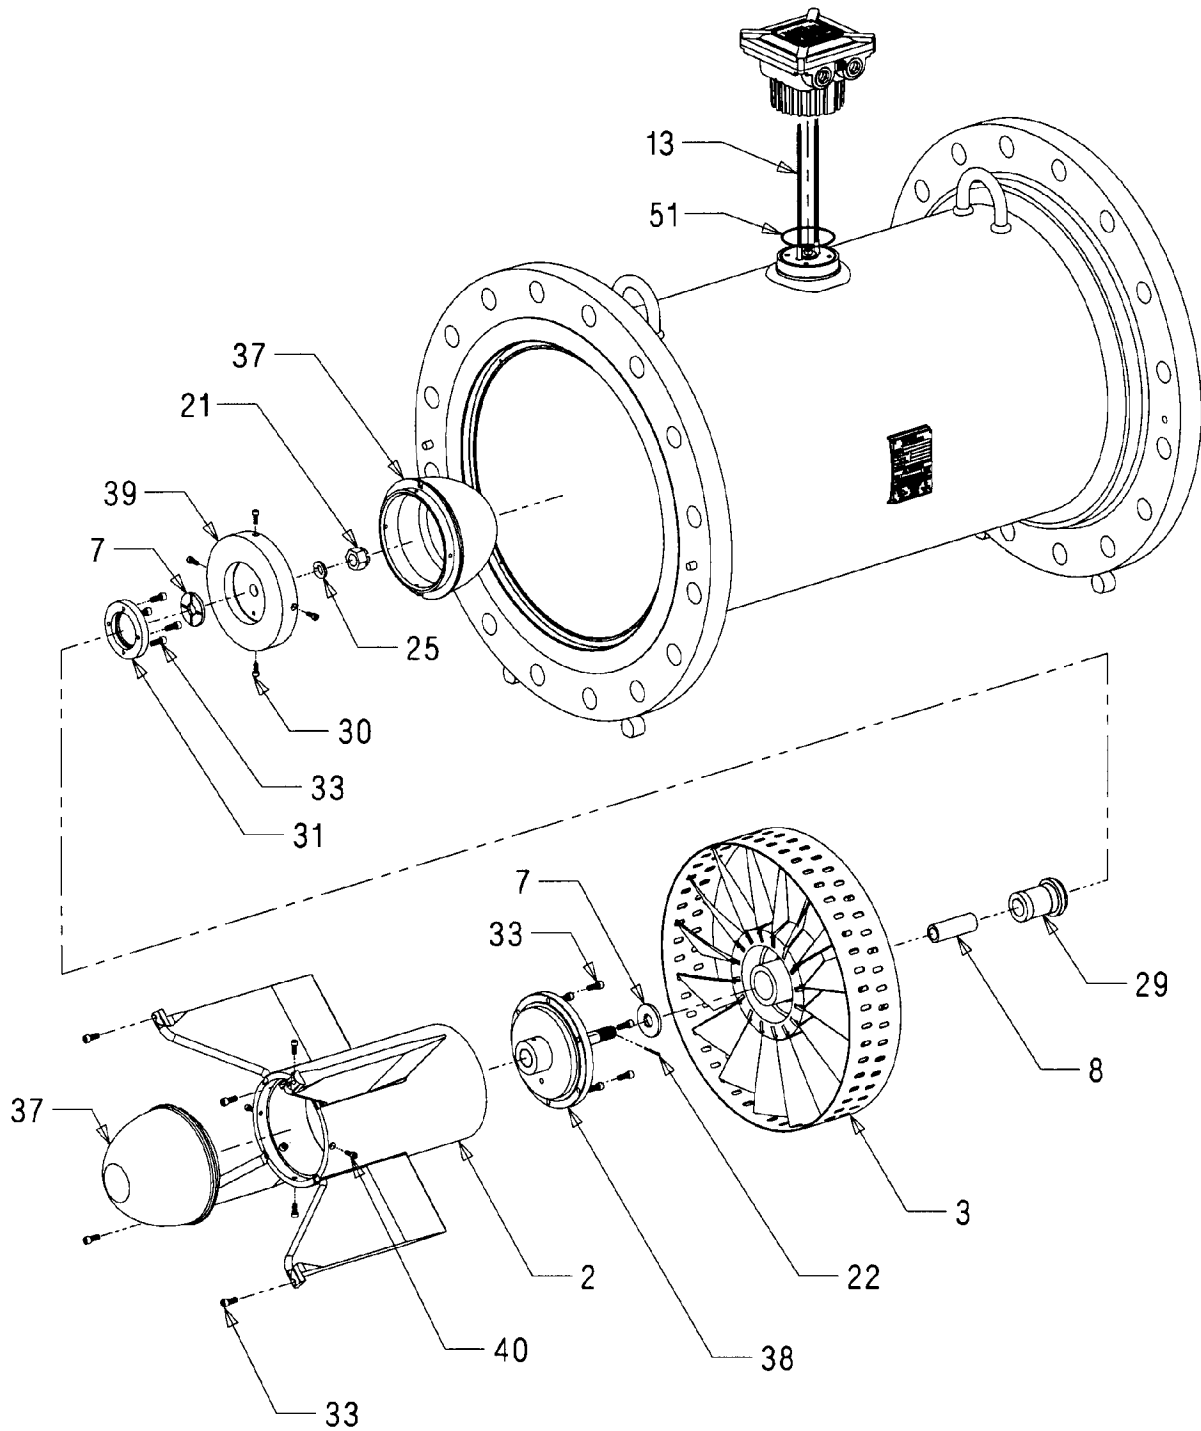

Figure 7-3. Meter Assembly - Sizes 6" through 16" (Reference Table 7-3)
On all meters 6" and larger, use PERMA-LOK #LM113 or equivalent on the socket-head screws (item 33) (see Figure 7-3).
Table 7-3. Meter Assembly - Sizes 6" through 16" (Reference Figure 7-3)